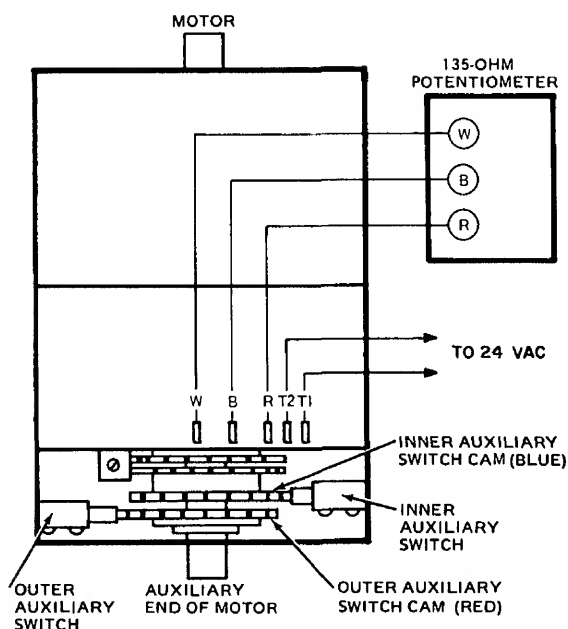

Fig. 28 — Auxiliary Switch Stroke Adjustment
2. Disconnect controller from motor. Connect red, white, and blue terminals on the 135 ohm manual potentiometer to corresponding red, white and blue terminals on the motor. Connect 24-vac power to Terminals 1 and 2. See Fig. 28.